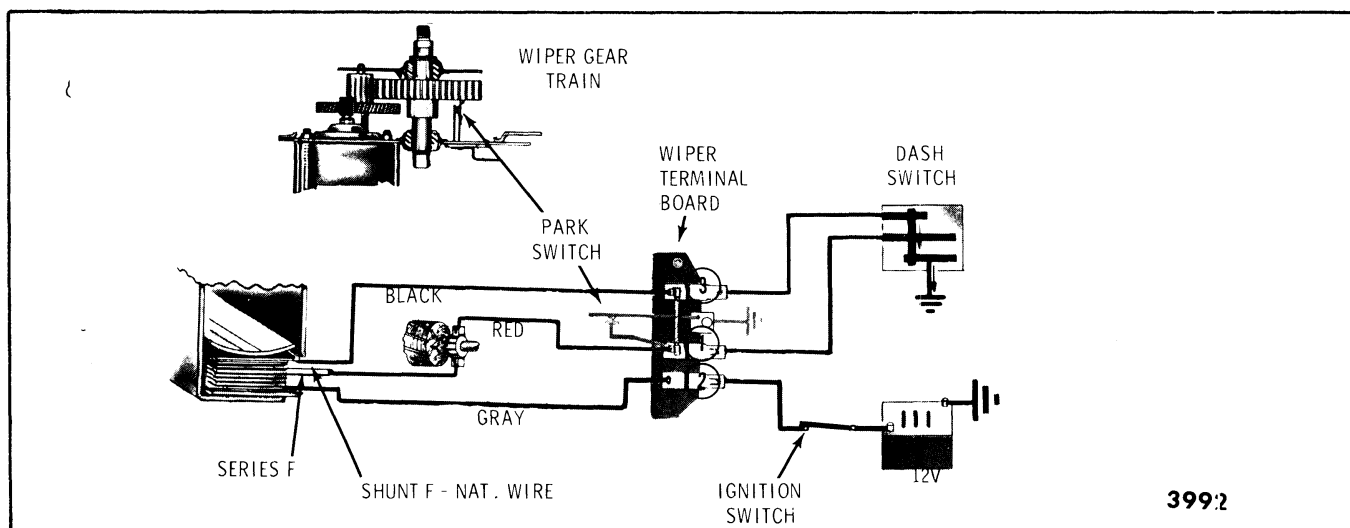

Fig. 2-2-"LO" Speed Circuit
Turning the wiper switch to the "LO" speed position completes the circuits from the wiper terminals 1 and 3 to ground. Current then flows from the battery through wiper terminal No. 2 through the series field and divides; (1) part passes through the armature to ground through wiper terminal No. 1 to the wiper switch and (2) part passes through the shunt field to ground through wiper terminal No. 3 to the wiper switch (Fig. 2-2).